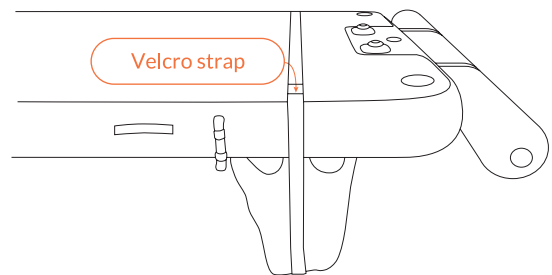

Fig 20 - Ballast Bag down
2. Deploy the Ballast Bags and reattach the Velcro straight 5cm/2" from the end of the Platform (Fig 20).
3. Ensure each Ballast Bag is in the down position and able to fill (Fig 20) and ensure the Velcro straps are secure.